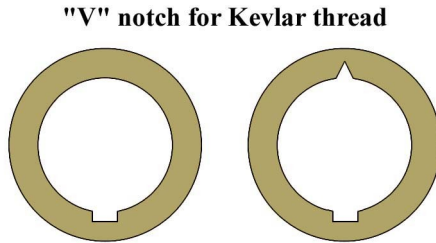

Figure 1
- **Step 1** Open the EM-58 package, and modify the two CR-58 centering rings with flat notches to fit the engine hook, as shown in the left-side image of Fig. 1. Modify **one** CR-58 ring with a "V" notch as shown in the right-side image of Fig. 1. Assemble the EM-58 according to the SEMROC instructions, using the "V"-notched ring as the **forward-most** ring. Clean out any glue that fills up the "V" opening with a moist, soft-bristle brush. Set aside to dry.